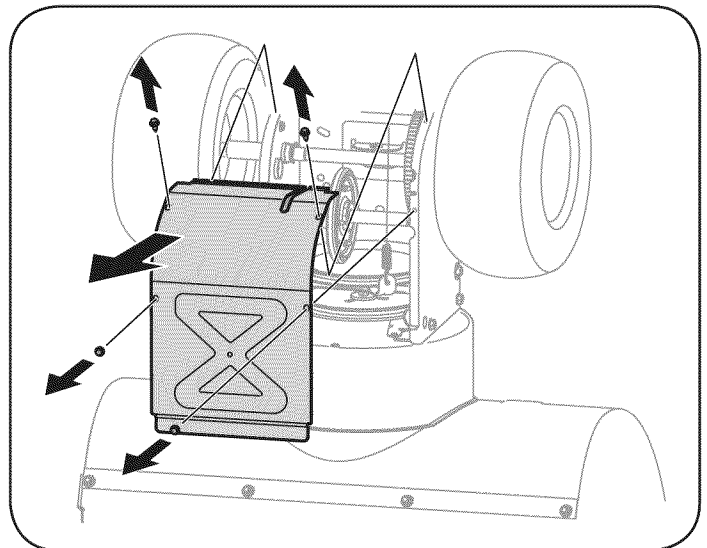

Figure 23
5. Remove the frame cover from the underside of the snow thrower by removing four self-tapping screws which secure it. See Figure 23.